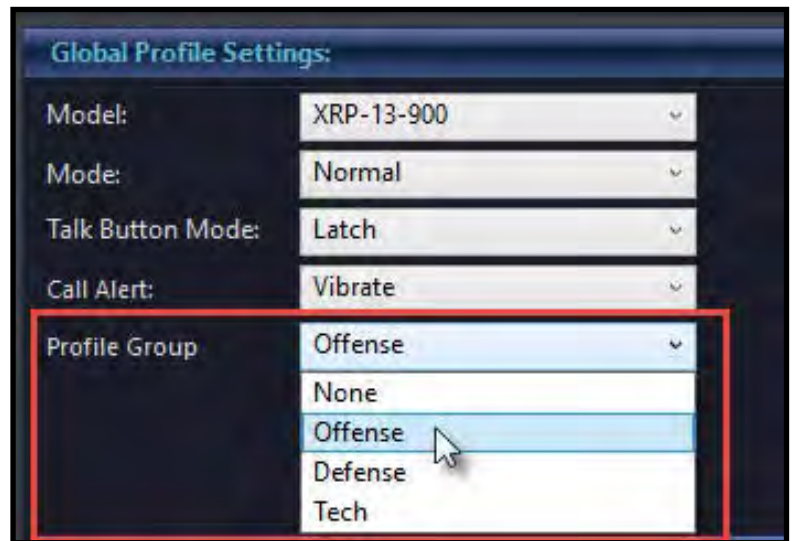

Figure 91: Profile Group Selection - Profile Detail View
- To associate profiles with any group, select them from the All Profiles list on the left-hand column, then use the arrow button to place the selected profiles into the right-hand “In this group” column. You may also open the profile’s detail view and edit the Profile Group field (in the Global Profile Settings section). See Figure 91.